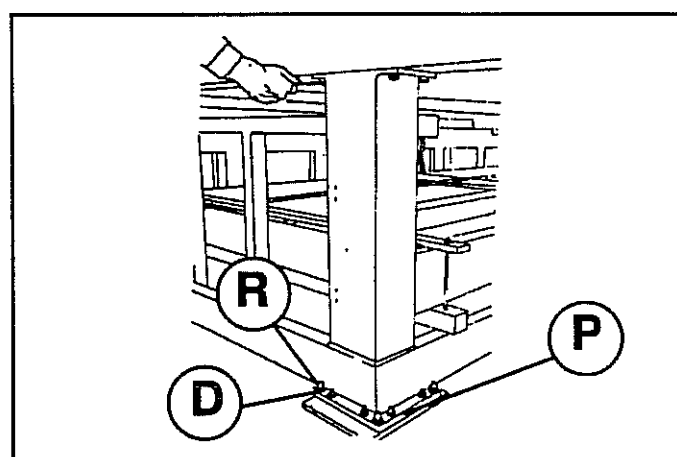

Fig.2.12
- 4- To level loosen the nuts (D) that hold the resting plate (P) to its own column fig.2.12.
- 6- Mount the longerons onto the platform columns as in the illustrations (fig.2.12)